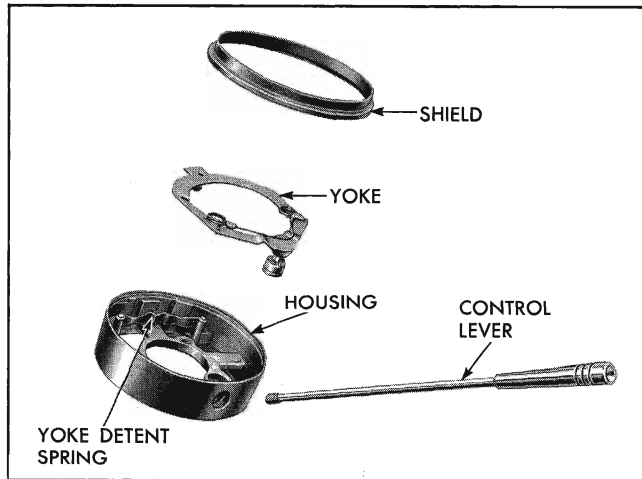

Fig. 11-133 Direction Signal Control—Exploded
10. Remove three screws which retain actuator housing and remove housing (Fig. 11-133).
6. Actuator yoke can be removed from housing by pressing out shield (Fig. 11-133).